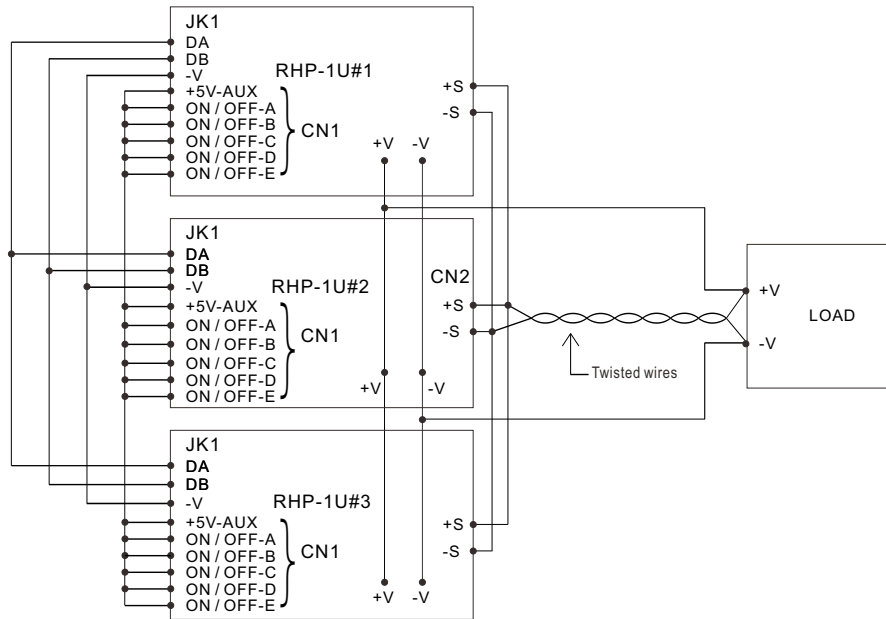

Figure 3-8 Configuration of three rack shelf units in parallel
- ⊙ Configure rack shelf units in parallel before connecting to the load. Do not connect rack shelf units to the load separately. Refer to Figure 3-8
- ⊙ Control singles of DA, DB and -V should also be connected in parallel. (Refer to Figure 3.8).
- ⊙ Use twisted wires for the wiring of +S and -S, the twisted wires should not touch the load wires to avoid interference. Refer to Figure 3-8.